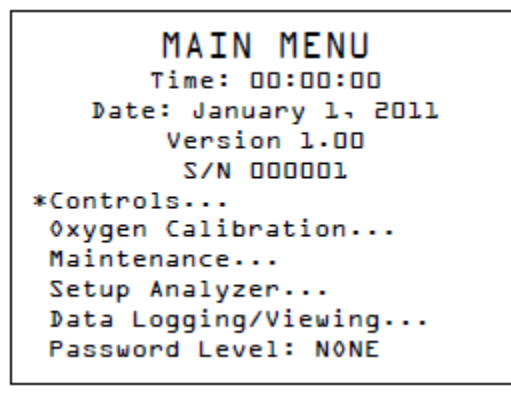
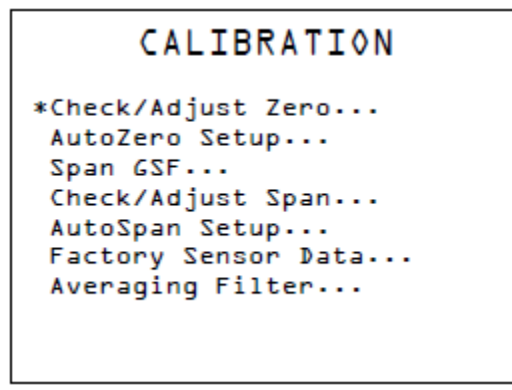

Figure 19: Main Menu
Figure 21: Oxygen Calibration Menu
- Pressing the ← key while in the Oxygen display brings up the Main Menu display (Figure 19: Main Menu).
The analyzer menu tree is large but simple to navigate. To help you quickly locate a particular screen from this manual, the steps required are located above each menu (see Figure 19).
The Oxygen Calibration Menu is entered from the Main Menu, as shown in Figure 19: Main Menu, when the user wants to check the calibration or recalibrate the analyzer. The Oxygen Calibration Menu is shown in Figure 21.
The analyzer can be calibrated by selecting **Oxygen Calibration** from the Main Menu, Figure 19. This menu leads to other menus that provide options for automated (with optional equipment) and manual calibration. A zero or span calibration can be independently performed in either the automated or the manual mode.